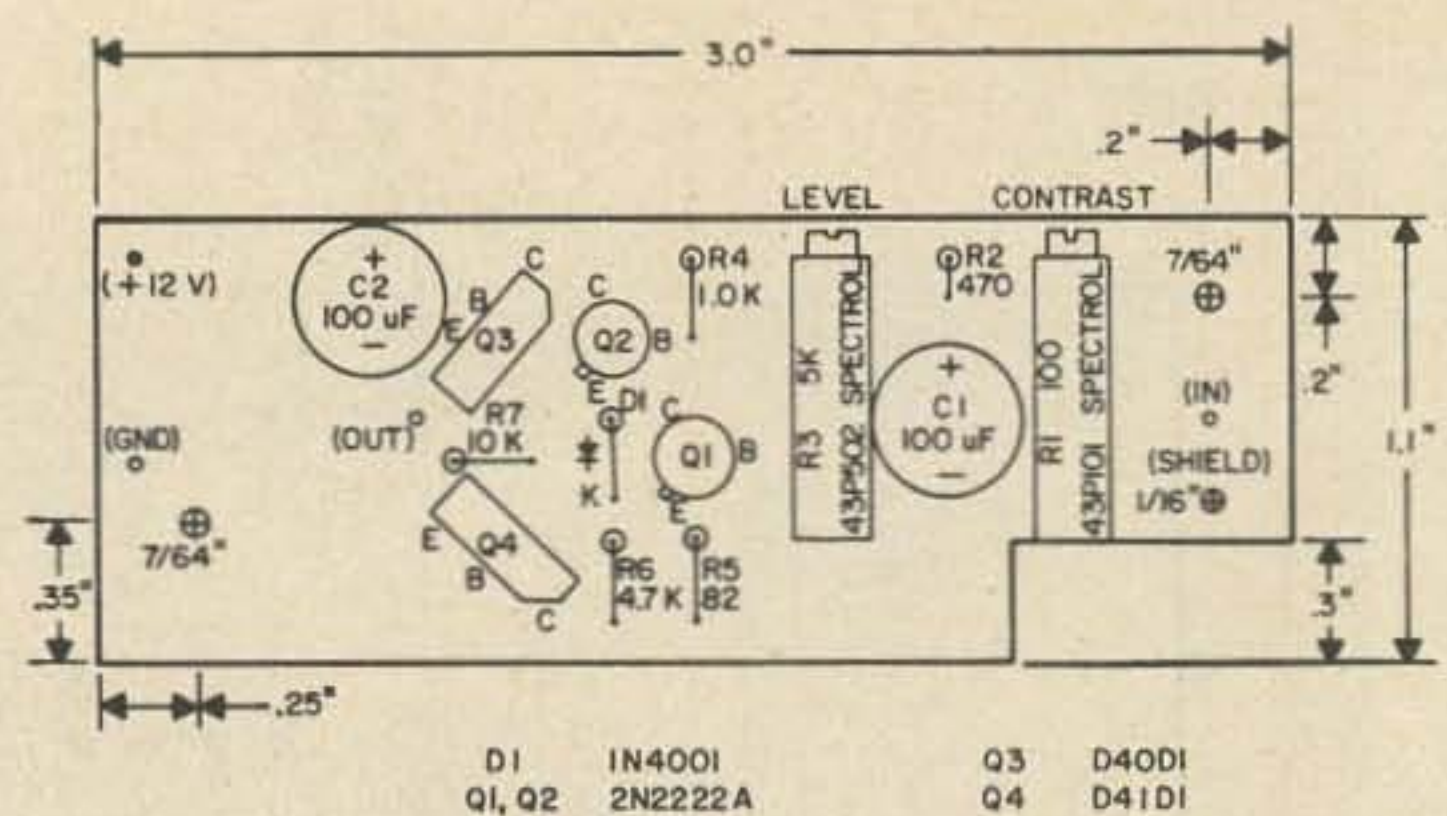

Fig. 9. Video modulator - component side. Tabs cut off of D40 and D41. Resistors and diode mounted vertically.
7. Mount all components to the video modulator PC board as shown in Fig. 9, noting the following: